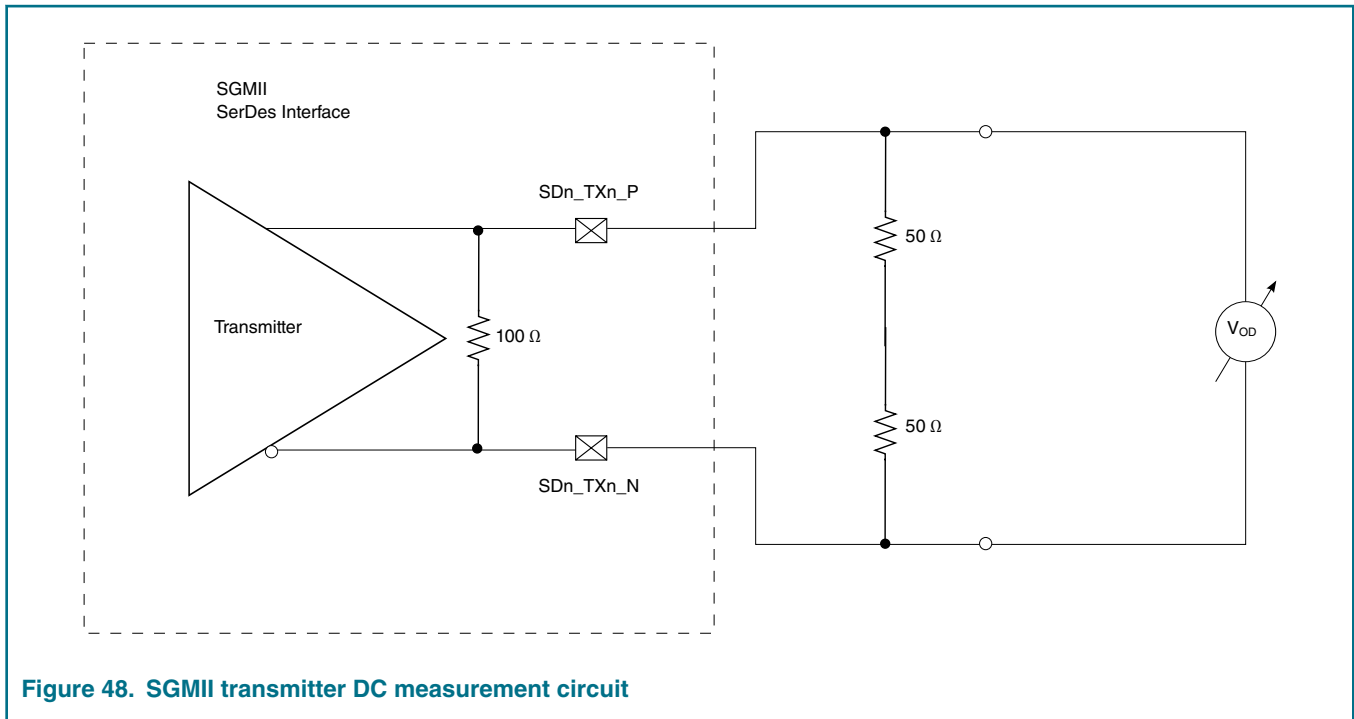

Figure 48. SGMII transmitter DC measurement circuit
13. See Figure 48. on page 151.